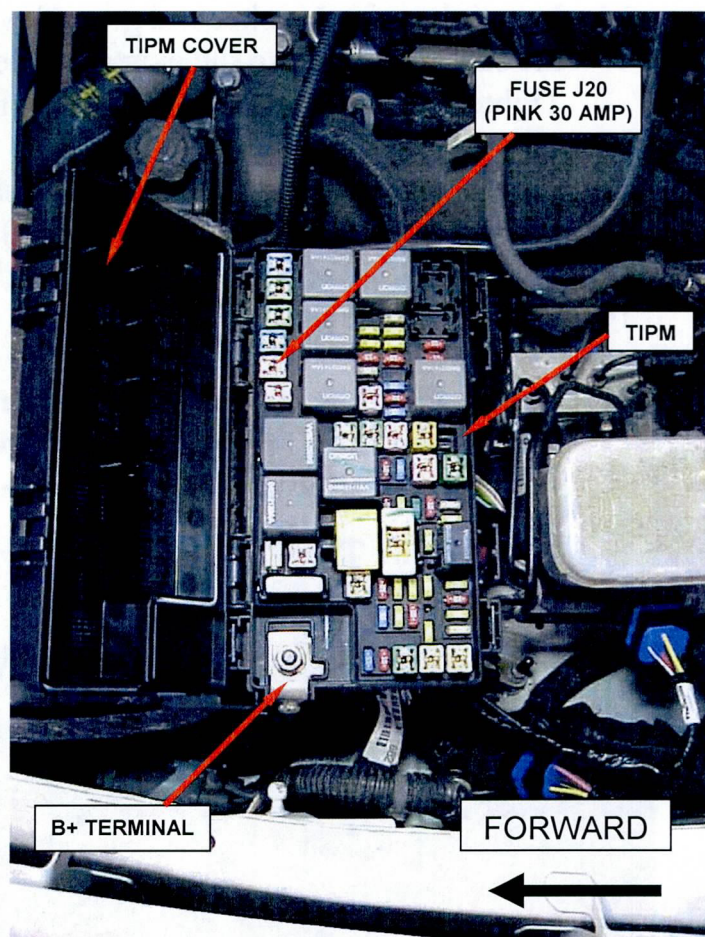

Figure 18 – B+ Terminal and Fuse Location
9. Open the TIPM cover and connect the B+ terminal (Figure 18). Tighten the B+ nut to 210 in. lbs. (23 N·m).
10. Remove and discard fuse J20 (pink 30 amp) from the TIPM (Figure 18). Refer to the inside of the TIPM cover to verify fuse location.